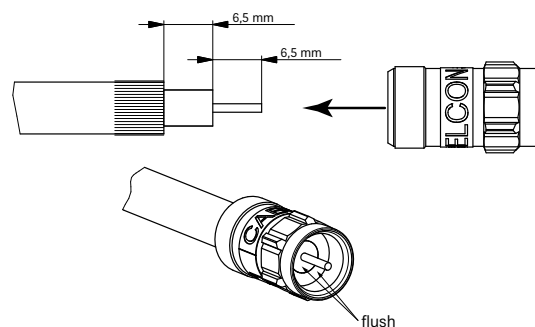

Fig. 4: Plug mounting
2. Mount the supplied F-type plug onto the Kathrein cable types LCD 90, LCD 111A+ or LCD 115A+ and connect to the LNB (see Fig. 4).